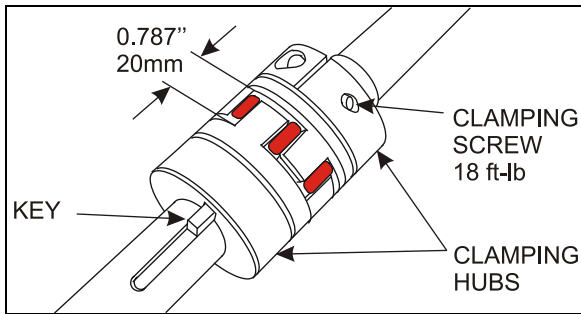

FIGURE 22: JAW COUPLING
8. Reconnect the clamping hubs with the spider. Leave a gap of 20mm (0.787inch) between each clamping hubs as shown on Figure 22. Use the motor hexagonal socket output shaft to align the keyways.